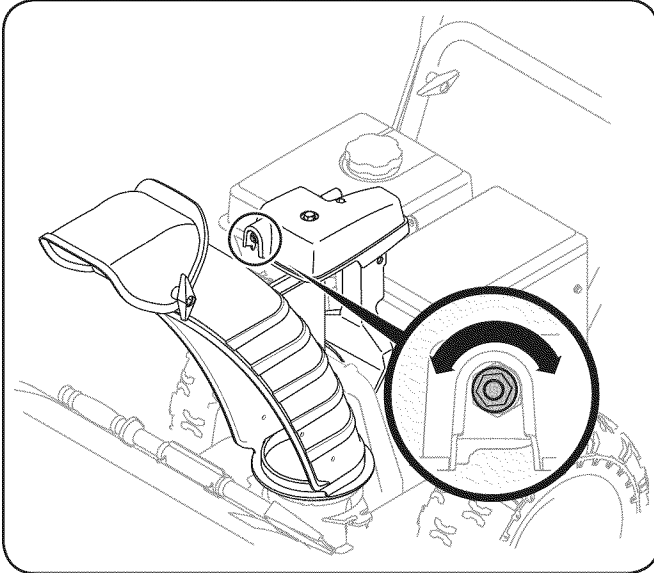

Fig. 6-7
- While preventing the chute control rod from turning, tighten the nut on the chute gearbox assembly. See Fig. 6-7.